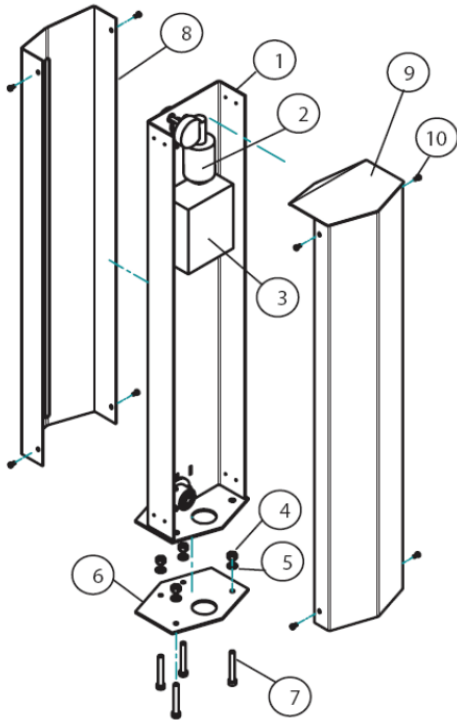
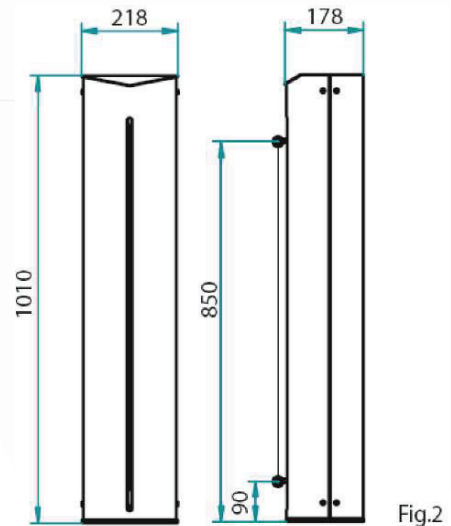

Fig.4
Fig.2
3.2 Installation of the Column (Fig. 1, Fig. 2, Fig. 4)
5. Unscrew the 8 screws [10] take off the frontal [8] and the rear cover [9] of the column (Fig. 4)